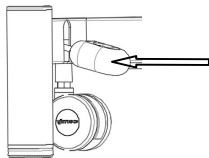

Figure 1 Foot pedal position
- Push the control rod down (it is recommended to use your feet to push) to activate the casters. When the casters are on the ground the table is in a moving status.(Figure 1)
- Push the control rod up (it is recommended to use your feet) and the casters are in the retracted status. When the casters are retracted the table is in a fixed position.(Figure 1)